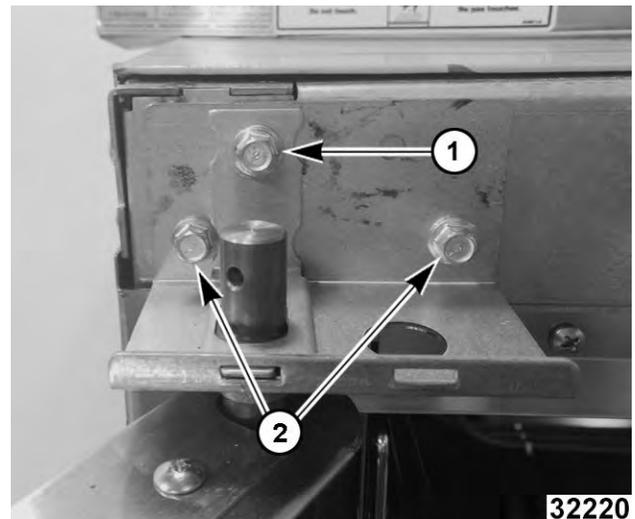

Fig. 37
3. While supporting door, remove hex bolts holding upper bearing retainer (1, Fig. 37 ) and upper shaft bracket (2, Fig. 37).